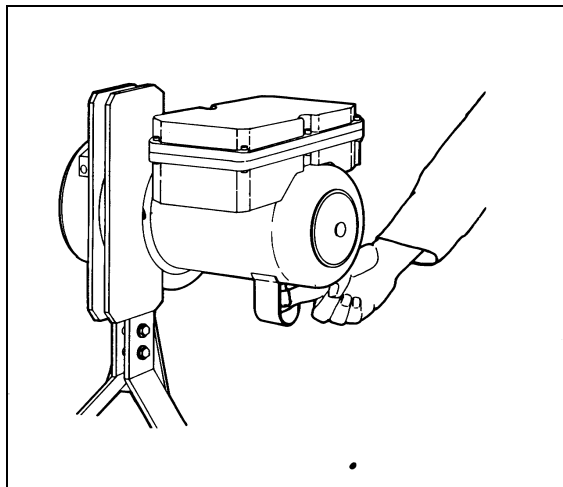

Figure 3.3
- Release Hoist brake by gently pulling Controlled Lowering Lever as far as it will go. (See Figure 3.3 & 3.4)